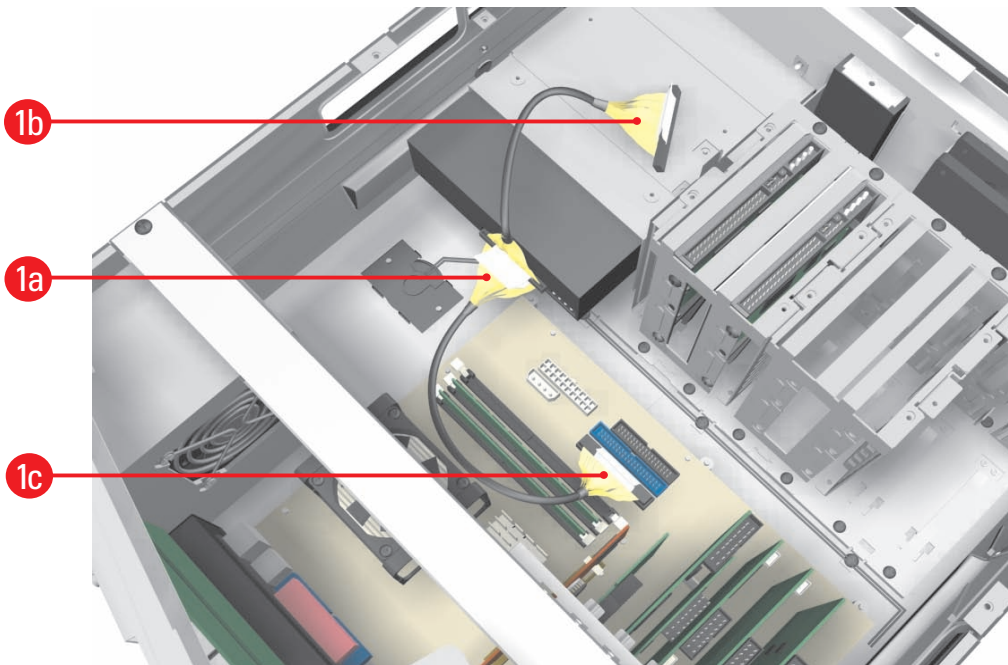

Figure 16. Installing CD-RW Data Cable
- a. Connect the *gray* connector of the data cable that came with your DX8000 to the CD-RW drive as illustrated in Figure 16.
- c. Connect the *blue* connector of the data cable to the Secondary (*black*) IDE connector on the system motherboard. Refer to Figure 16.